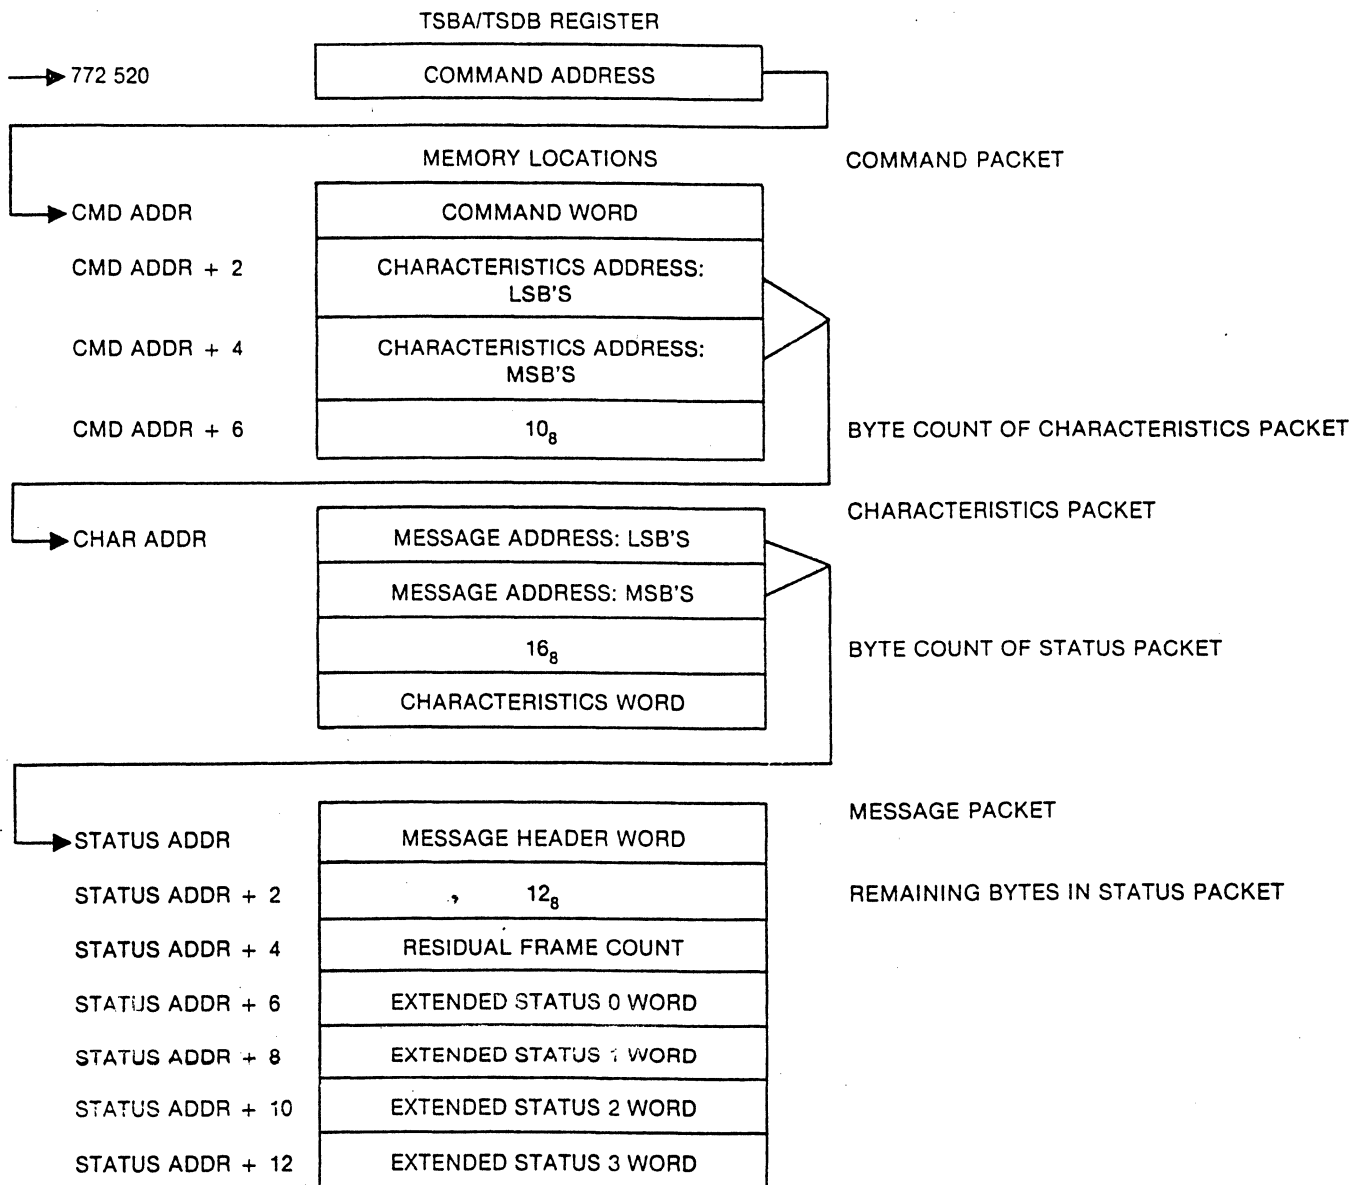

Figure 4-2. Set Characteristics Command Sequence
3. Bus address register (TSBA) contents access a command word, which is typically "set characteristics." Note that the set characteristics command packet comprises four successive memory locations (eight bytes) that contain (see Figure 4-2):
starting address of the status packet into the coupler. The secondary purpose is to load a characteristics word into the coupler. The characteristics word sets "interrupt" and "space files stop" conditions in the coupler. Figure 4-2 shows a Set Characteristics Command sequence.